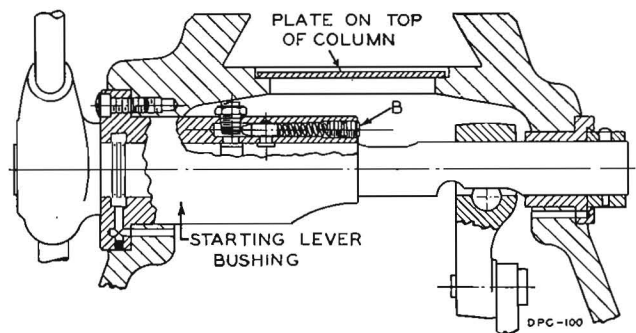

FIGURE 30
2. Pull overarm forward to uncover plate on top of column, Figure 30. Remove this plate.
3. Remove first of two  $\frac{3}{8}$ " hollow headless set screws in the end of starting lever bushing at "B", Figure 30.
4. Turn second screw at "B", Figure 30, in to increase pressure. Pressure should be 290 lbs. to 310 lbs. Replace locking screw.